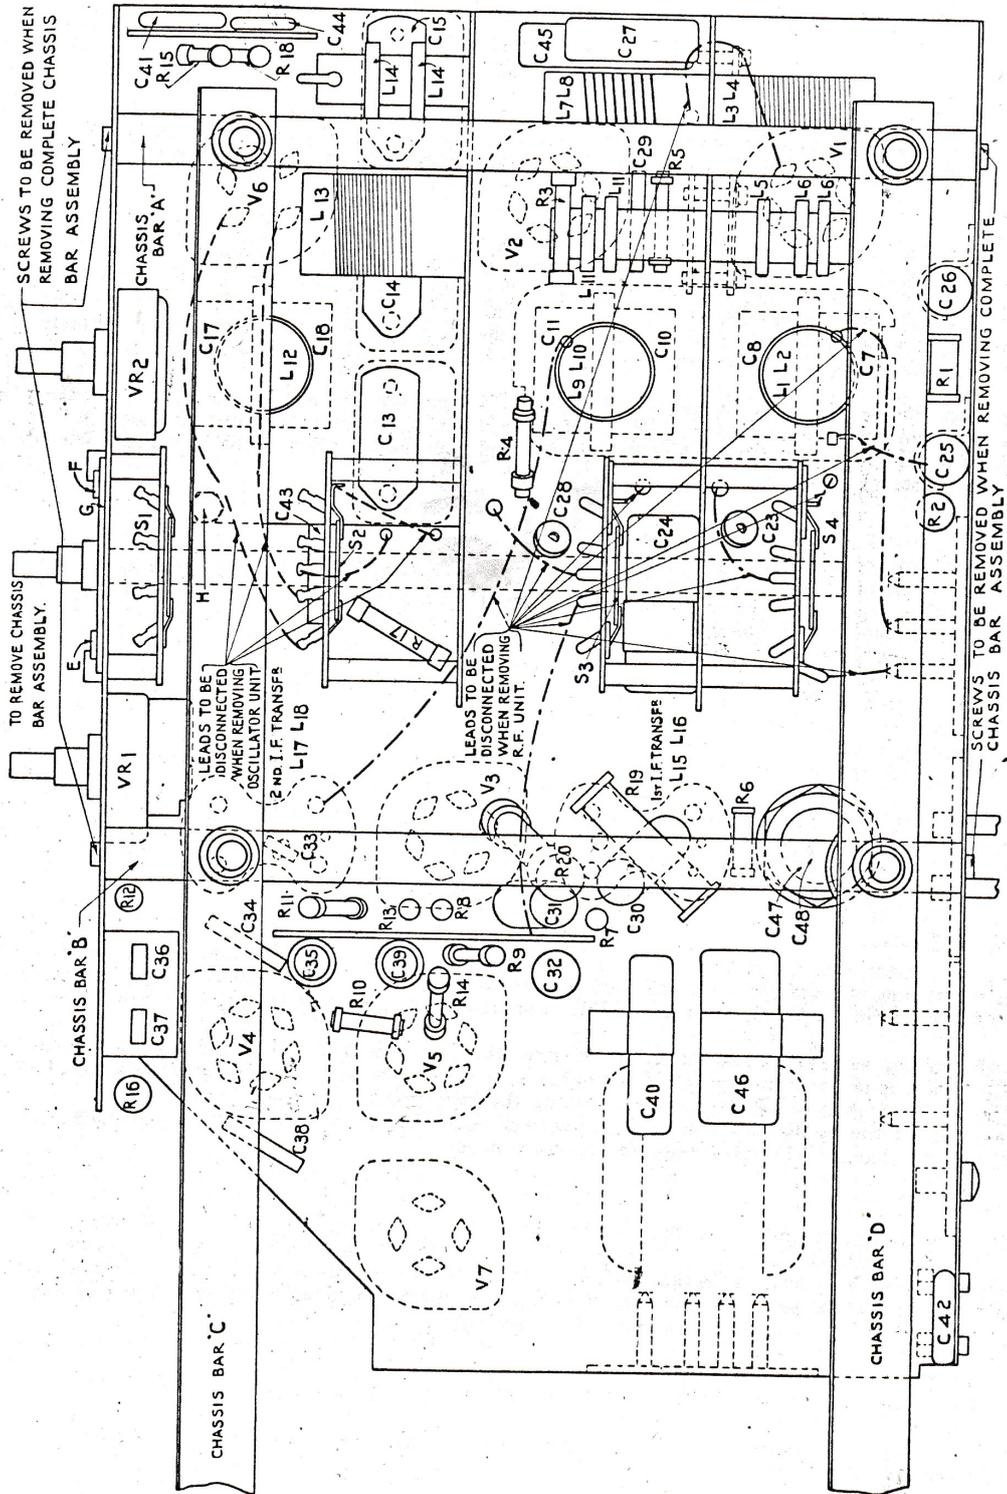

Fig. 5. View of underside of chassis.
To remove either unit first remove the eight cheese headed screws which hold the transverse chassis bars (A and B Fig. 5) to the vertical faces of the chassis. The transverse bars may now be removed with the two longitudinal bars (C and D Fig. 5) still mounted thereon.
Also unscrew the two self tapping screws (E and F Fig. 5) which hold the switch location plate (G Fig. 5) to the front of the chassis, and after turning the switch to the gramophone position (fully clockwise) withdraw the switch spindle complete.
1. Unsolder the oscillator grid and cathode wires which run from the oscillator valve holder to the switch member (S2 Fig. 5) and disconnect the two wires from the gang condenser. All four wires are indicated on Fig. 5 and should be unsoldered at the switch end.
2. From the bottom of the chassis, unscrew the self tapping screw (H Fig. 5) which holds the front edge of the oscillator unit to the chassis. This screw is located one inch from the front edge of the chassis and one inch to the right hand side of the gang spindle.
The aerial section is that nearer the back of the chassis. In this section there are five wires (indicated on Fig. 5) to be disconnected as follows:—
1. Unsolder the two gang condenser leads to the switch member (S4 Fig. 5) at the switch end.
2. Disconnect the lead from the aerial socket A1 at the switch (S4 Fig. 5) and that from aerial socket A2 at the short wave coil (L1, L2).